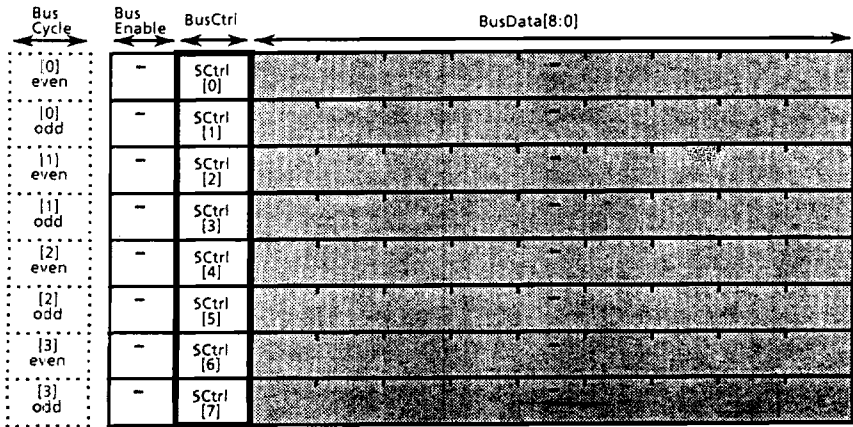

Figure 7. Serial Control Packet Format
- (6) Serial Control Packet
- packet are all of those which access memory space. The register read and write commands do not use the serial control packet. Figure 7 shows the format of the serial control packet.